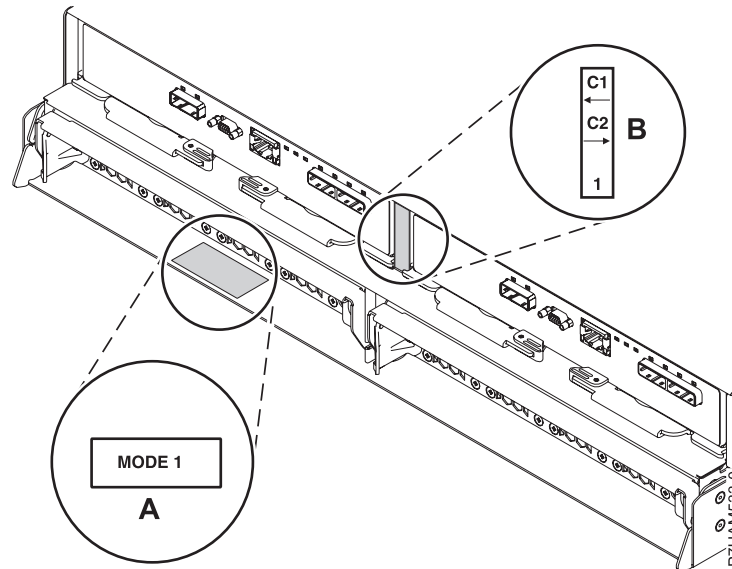

Figure 27. Mode sticker locations at the rear of the 5887 disk drive enclosure
- b. Confirm the factory-set mode of the 5887 disk drive enclosure by using information printed on stickers at the rear of the enclosure. Stickers are attached to the lower-left shelf of the chassis (A) and the center support between the enclosure services manager (ESM) modules (B). The stickers indicate whether the enclosure is set to mode 1, mode 2, or mode 4, as shown in Figure 27.